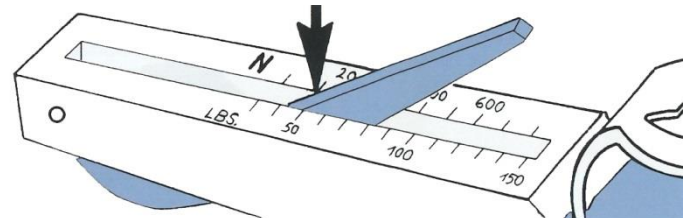

Figure 5.6
5.1.2.4.3 Read the gauge to judge the tension as follows and as illustrated in the sketch below. See Figure 5.6